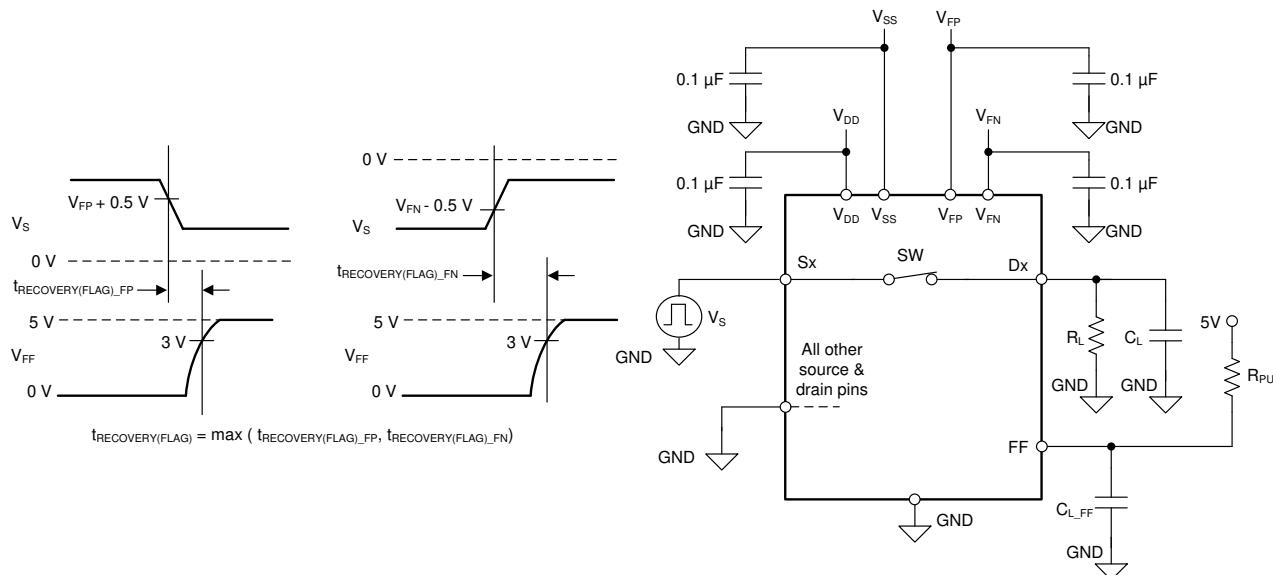

Figure 14-6. Fault Flag Recovery Time Measurement Setup
Fault flag recovery time ($t_{\text{RECOVERY(FLAG)}}$) measures the delay between the source voltage falling from the overvoltage condition to below the fault supply voltage (V_{FP} or V_{FN}) plus 0.5 V and the general fault flag (FF) pin to rise above 3 V with 5 V external pull-up. Figure 14-6 shows the setup used to measure $t_{\text{RECOVERY(FLAG)}}$.